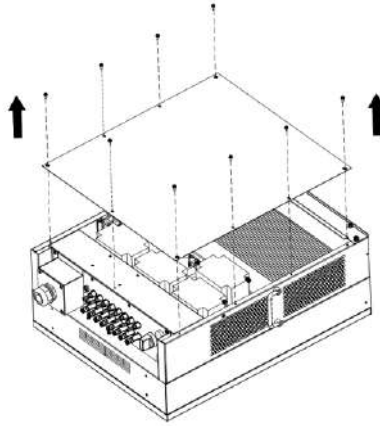
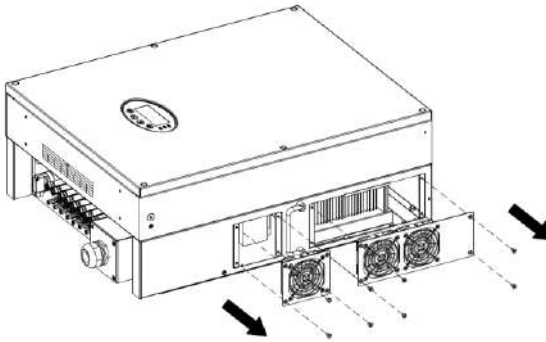

Figure 5.1 Remove the cooling chamber
Figure 5.2 Remove the fan mounting plate
- (1) Disconnect the input and output switches.
- (2) Wait ten minutes.
- (3) Remove the inverter as the reverse steps of Section 4 content.
- (4) Remove the cooling chamber or fan mounting plate, as shown in Figure 5.1 and Figure 5.2.
- (1) Disconnect AC breaker.
- (2) Turn the DC switch to "OFF" position.
- (3) Wait for at least 10 minutes.
- (4) Disconnect all the electrical wirings at the bottom of the inverter.
- (5) Lift up the inverter with the help of others and take the inverter off the wall.
- (6) Place the inverter on the operation platform.
- (7) Disassemble the fan box as shown in fig 5.2.